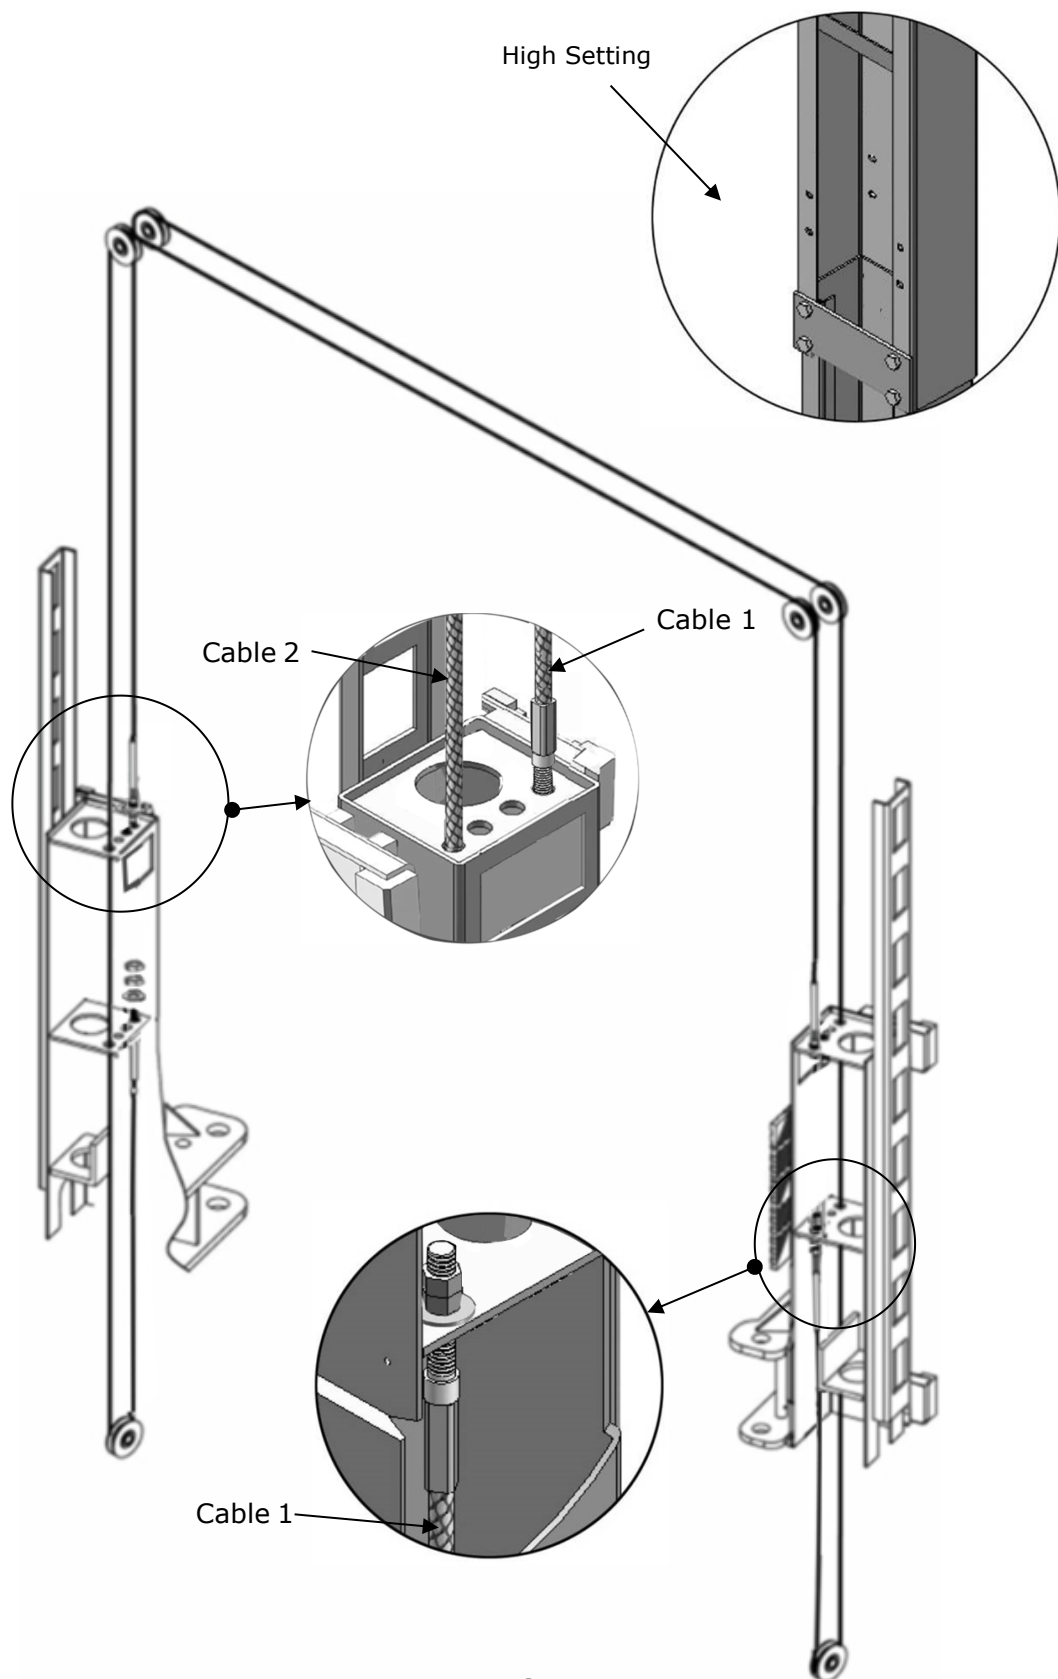

Fig.28
1.2 Connecting cable for high setting (**See Fig. 28**)